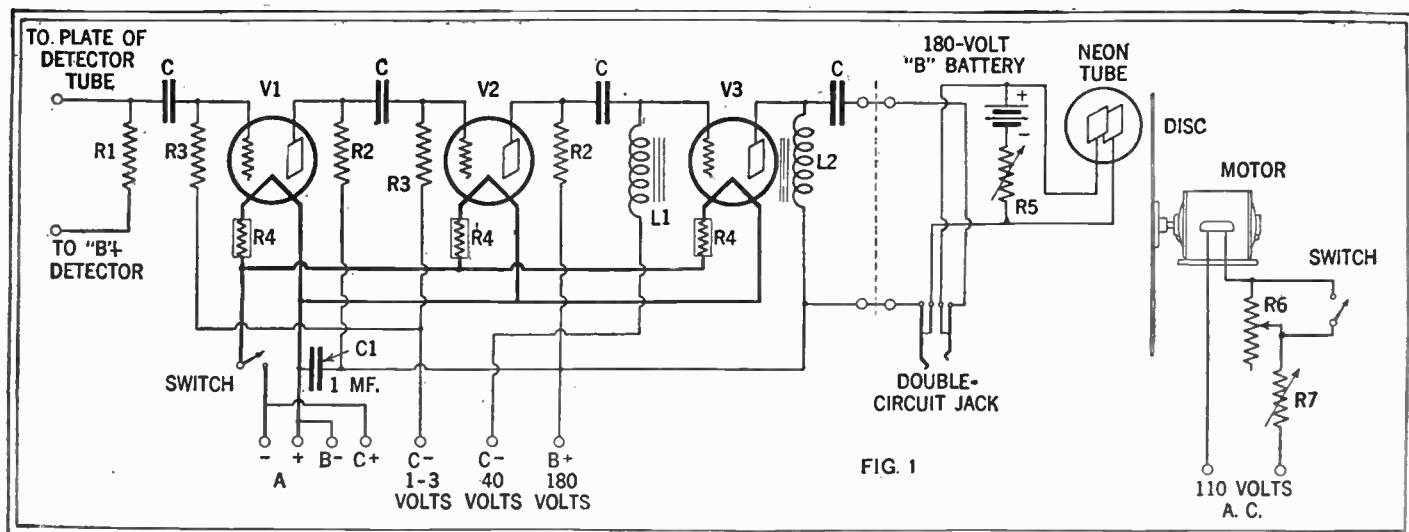

FIG. 1
If you are able to use your regular broadcast receiver for WRNY, you will not use for television reception the present audio amplifier if it is of the transformer type. Simply run a wire from the plate (P) post of the detector tube to the top input post of the resistance-coupled amplifier shown in Figs. 1 and 3, unhook the "B+Det" wire running to the power unit or "B" batteries, and bring this same wire to the other input post of the audio amplifier instead. With this arrangement, the detector will be feeding directly into the resistance-coupled amplifier.
You will need the following parts, arranged and connected as shown in Figs. 1 and 3: a wooden baseboard; three UX-type tube sockets, V1, V2, V3; three $\frac{1}{4}$ -ampere filament ballast resistors, R4; two double-resistor mountings; four 0.5-mf. fixed condensers of the by-pass type, C; one 1.0-mf. condenser, C1; a special high-value grid
shown in Fig. 1. In this position it overcomes the tendency of the amplifier to "motorboat" when used with a "B" socket-power device. The tubes V1 and V2 are of the 240 ("hi-mu") type, while V3 is a 171A.
The best arrangement is shown in Fig. 1. The two output posts of the resistance-coupled amplifier are led to a double-circuit telephone jack, which may be mounted on the lower panel of the box holding the scan-
An alternate arrangement for the output of the amplifier shown in Fig. 1.
A simple layout for an amplifier such as that shown in Fig. 1. It uses straight resistance coupling in the first two stages (see preceding pages for values), a grid impedance coil, and an output choke. The output may be connected as in Fig. 2, above, for greater convenience. It is possible, also, to have the tube and speaker in series, with a slight additional "B+" voltage.